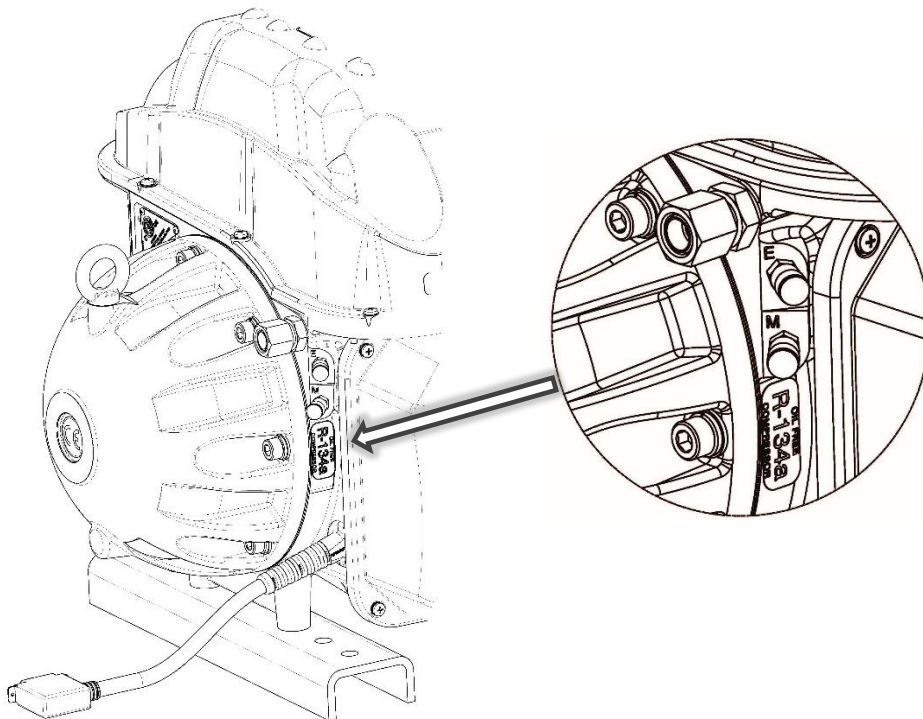

Figure 2 – Label Location
1. Locate the existing refrigerant label if one has previously been installed. Refer to Figure 2 – Label Location.
3. Adhere it to the location shown in Figure 2– Label Location above. Make sure it is in the orientation shown.